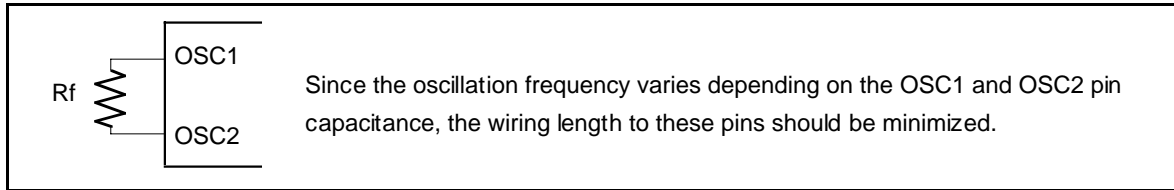

Figure 66 Internal Oscillation
10. Applies to the internal oscillator operations using external oscillation resistor R_f (figure 66 and table 39).